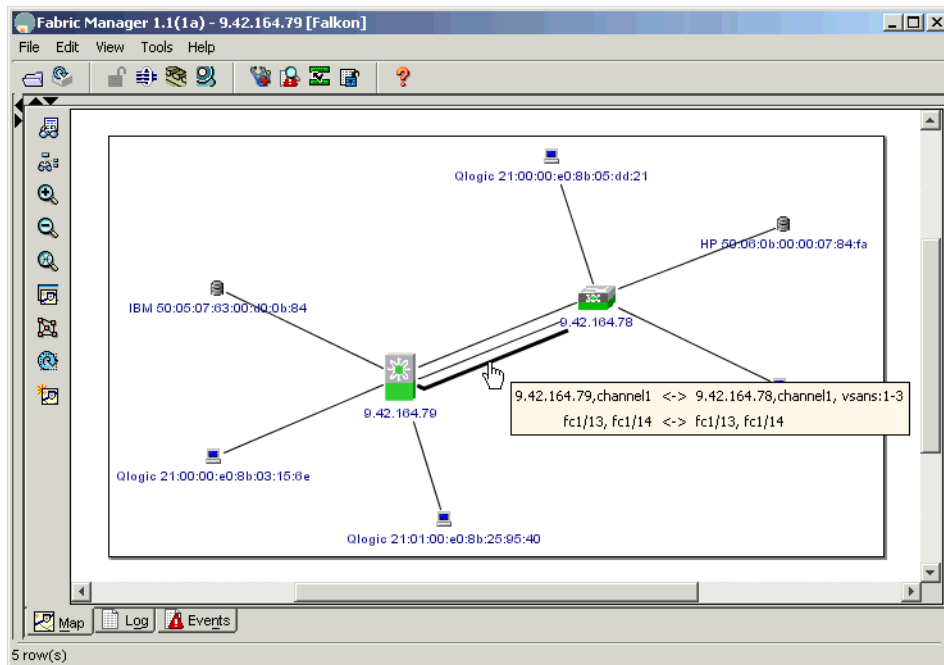

Figure 2-85 PortChannel with two ports
4. The PortChannel is now being created. However, it takes some time before the map display reflects the change. Click the **Refresh Map** button, until you see the PortChannel in the map display, as shown in Figure 2-85. The PortChannel is shown as a slightly thicker line than a normal link.